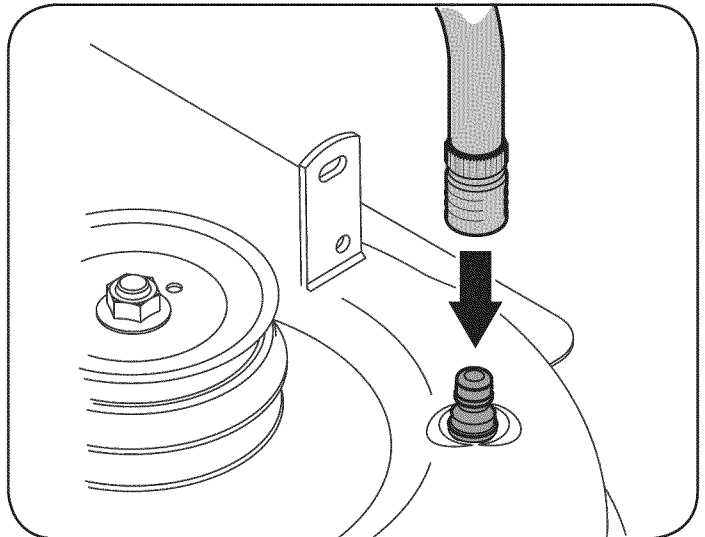

Figure 17
3. Attach the hose coupler to the water port on the deck surface. See Figure 17.